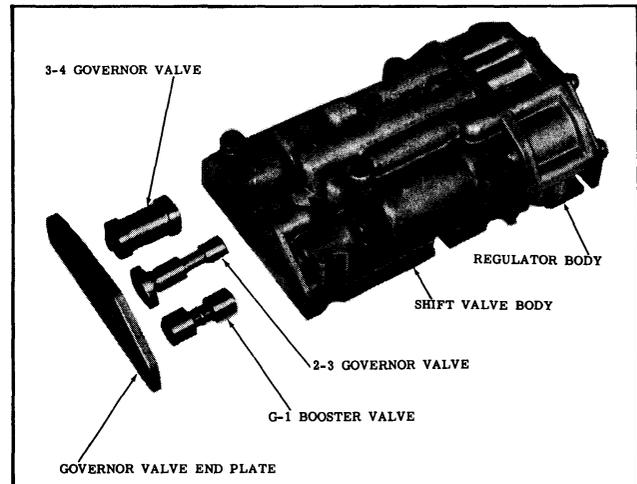

Fig. 3-119 End Plate & Valve Removal
4. Remove the 4 governor valve end plate attaching screws, then remove the plate. (See Fig. 3-119)
5. Remove the 3-4 governor valve. (See Fig. 3-119)